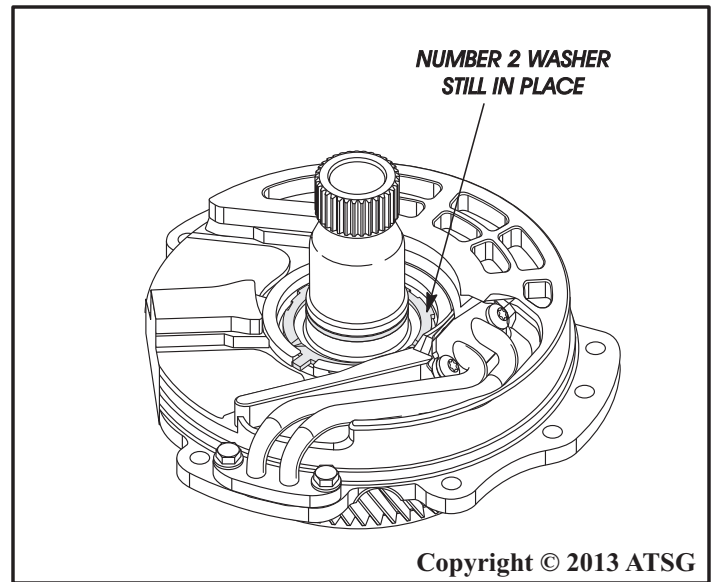

Figure 123
- Note:** Ensure that number 2 thrust washer is still in place before installation, as shown in Figure 123.